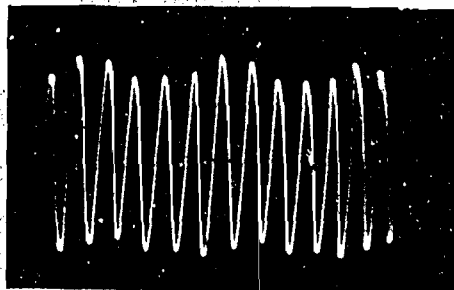
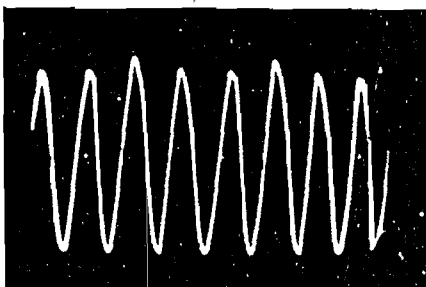

Fig. 1B
Fig. 2B
2. Adjust R22 (150 Hz Feedback Adj.) to the point where feedback is just sufficient to sustain full amplitude oscillation. See Fig. 1B.
11. With scope connected to TP8, throw Delete switch to delete 90 Hz. Signal should appear as in Fig. 1B. Throw Delete switch to delete 150 Hz and signal should appear as in Figure 2B.